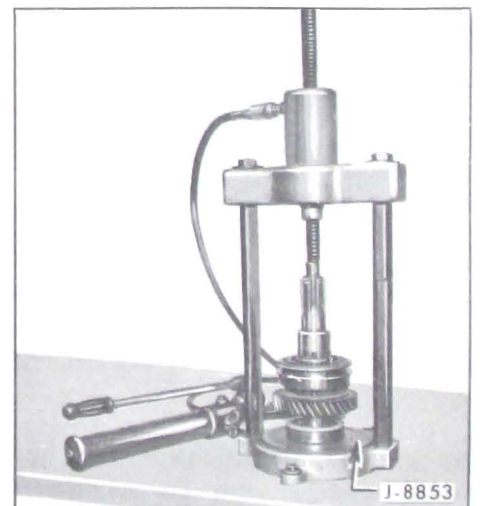

Figure 4-33—Installing Rear Bearing Using J-8853
4. Using J-8853, press on the rear bearing with the snap ring groove toward the front of the transmission (see Figure 4-33). Firmly seat bearing against the shoulder on the mainshaft.